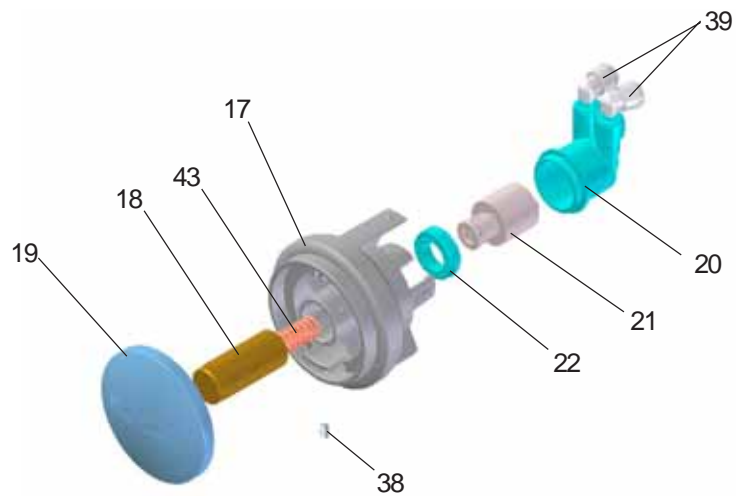

Figure 11 - Push Button Assembly
11. **Check stream height from bubbler.** Stream height is factory set at 35 PSI. If supply pressure varies greatly from this, remove push button (Item 17 - Figure 11) and adjust the screw on the regulator (Item 19 - Figure 11). To remove push button, remove set screw from bottom of sleeve (Item 33). Insert a small punch in screw hole and push up while grasping the push button and pull forward removing the push button. Clockwise adjustment will raise stream height and counterclockwise movement will lower stream height. For best adjustment stream should hit basin approximately 6-1/2" from the bubbler. Reassemble push button by pushing in on button until the push button catches in the sleeve. Reinstall the setscrew (Item 33) in the sleeve (Item 15).